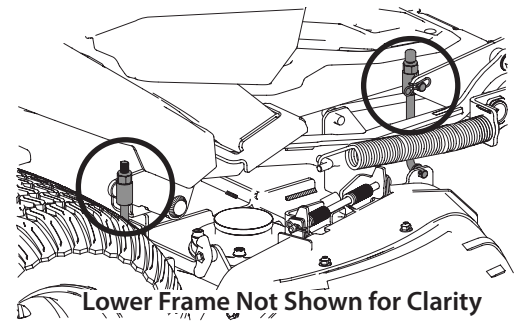

Figure 43
5. Locate the adjustment nuts on top of the deck lift rods on the left and right side of the tractor. There is one on each side at the front of the deck between the platform and lower frame tube, and one at each side of the rear of the deck near the front of the rear wheel. See Figure 43.